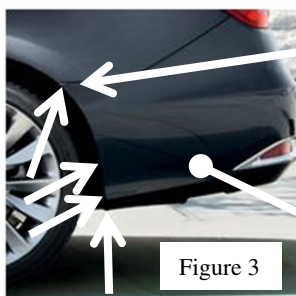

Figure 3
3. Remove (4) screws at the fascia to the wheel well. Both sides. One on the bottom of fascia two behind the wheel, and one straight up behind the bumper fascia to side panel connection points. See Figure 3. Due to vehicle variation, alternate or additional attachments might be unaccounted for, assure all fasteners are removed before removing fascia.